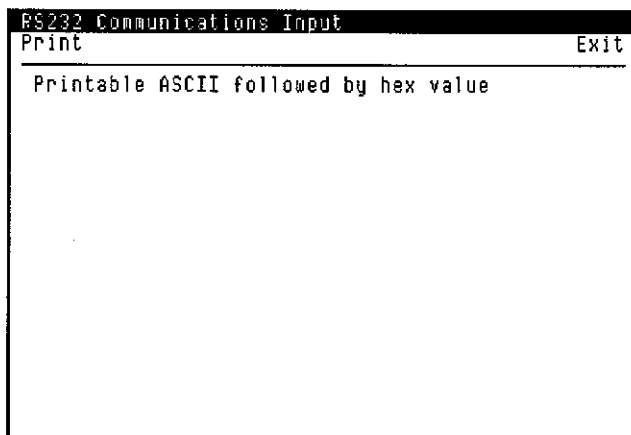

Figure 9-4.
3. With the Main window displayed, click on **"DIAGNOSTICS"** to display the Diagnostics window. Then click on **<RS232Input>** to display the RS232 Communications Input window, Figure 9-4. The bottom of the window is blank.